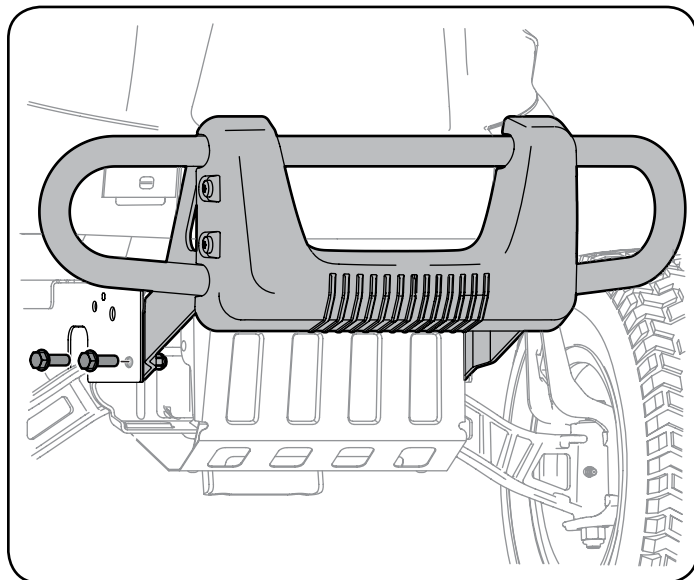

Figure 6
2. Position the bumper brackets to the inside of the tractor's frame and secure it in place with the four hex flange screws. See "Figure 6".